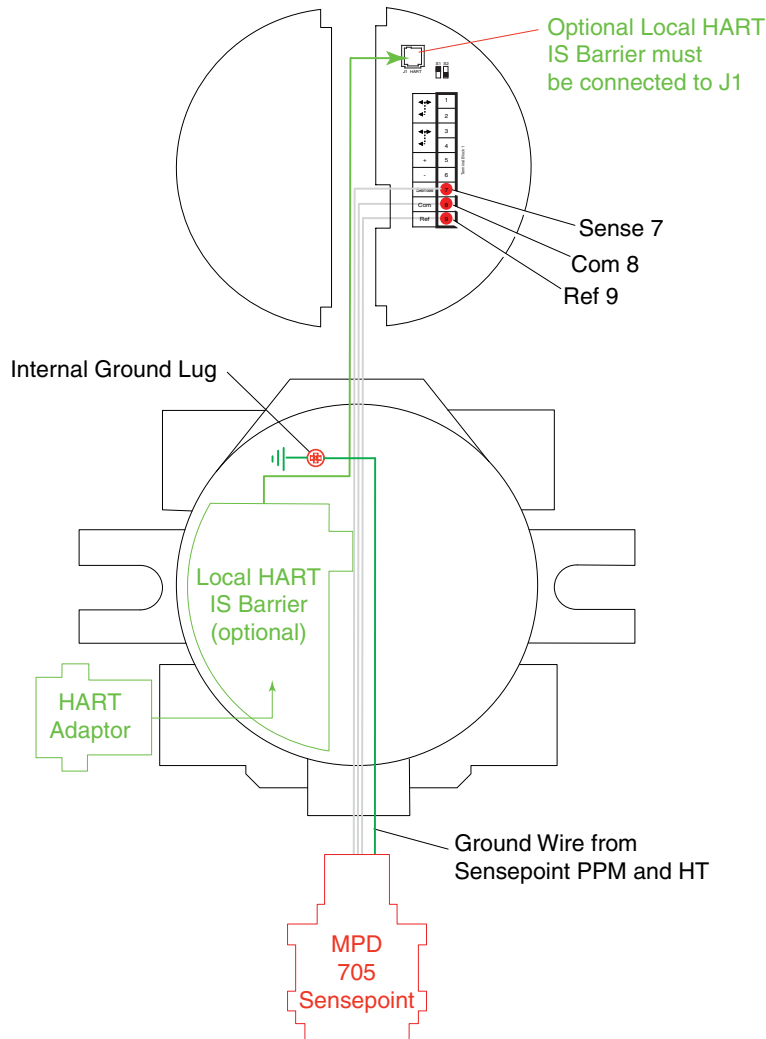
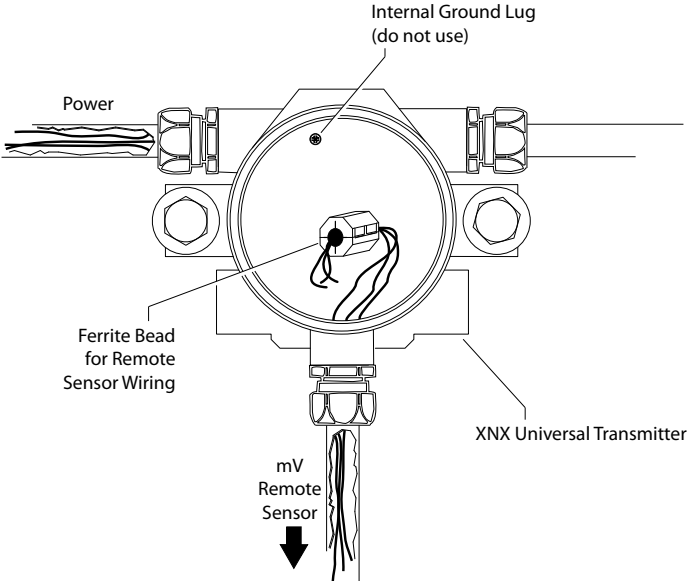

Figure 44. mV personality wiring
Figure 46. Ferrite bead wiring
5. Wire the pluggable terminal block as shown in the mV personality board illustration then plug the connector into the back of the mV personality board. In remote mount MPD configurations, the 3 wires connecting the pluggable terminal block and the remote MPD must be routed through the supplied ferrite bead (Honeywell Analytics part no. 0060-1051, supplied in the accessory kit) as shown in Figure 46.
12. At the transmitter, pass the wires through the ferrite bead as shown in Figure 46 and terminate the wiring at the pluggable terminal block as shown in Figure 44.